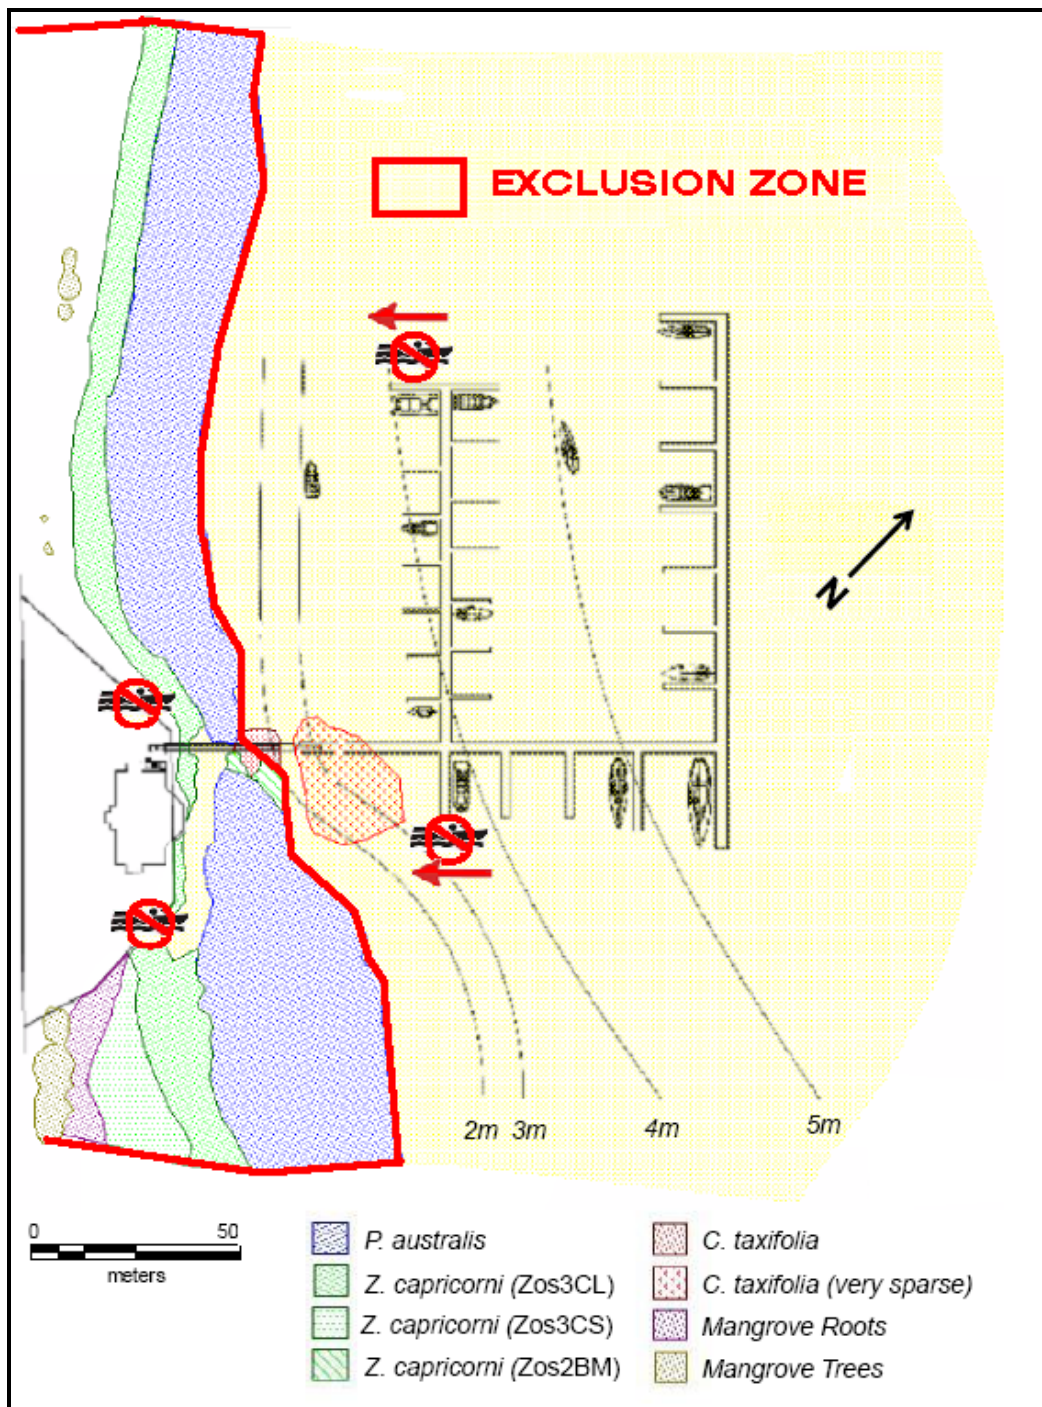

Figure 1: Exclusion Zone to avoid damage to seagrass
- Construction teams are to have regard for the marina vegetation depicted within Figure 1 and are to avoid deploying anchors or navigating over seagrass (*P. australis*, *Z. capricorni* – Zos3CL, Zos3CS, Zos2BM) – known as the "EXCLUSION ZONE" (see Figure 1). If movements over seagrass are necessary during construction then these should be done at high tide, while travelling slowly and ensuring that adequate clearance is maintained between seagrass and propellers.